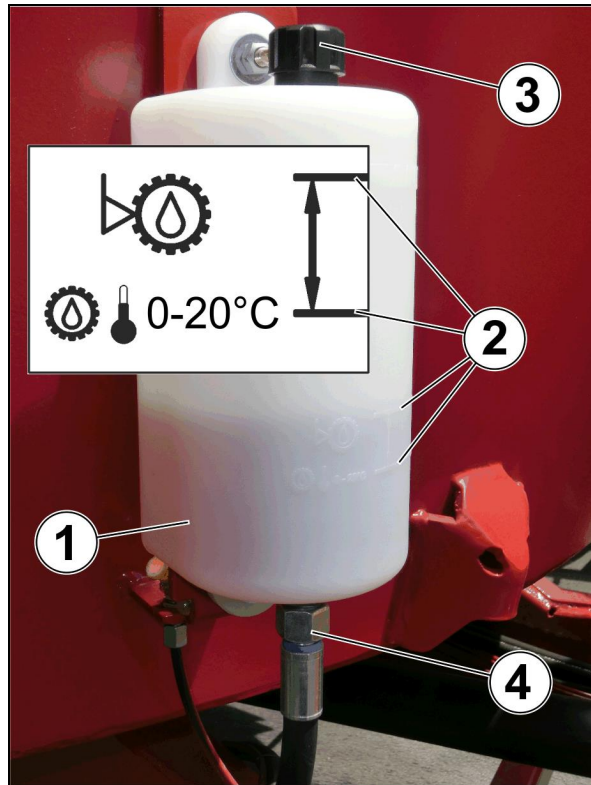

Fig. 76
1. Check the oil level in the mixer gearbox via the lateral compensating reservoir (Fig. 76/1).
The oil level must be visible between the two fill level markings (Fig. 76/2) of the compensating reservoir.
2. Fill gear lubricant oil (see Quantities when filled and change intervals, p. 128) through the vent opening into the compensating reservoir after removal of the vent screw (Fig. 76/3) if necessary.
3. Place a drip tray (capacity approx. 30 litres) beneath the compensating reservoir (Fig. 76/1).
4. Remove the vent screw (Fig. 76/3).
5. Unscrew the hose pipe (Fig. 76/4) from the compensating reservoir.
6. Refix the hose pipe (Fig. 76/4) to the compensating reservoir.
- 13. Fill gear lubricant oil (see Quantities when filled and change intervals, p. 128) through the filling pump into the mixer gearbox until the gear lubricant oil pours via the connector (**Fig. 76/4**) into the compensating reservoir (**Fig. 76/1**) and the oil level is visible between the two markings (**Fig. 76/2**) of the compensating reservoir.
- 17. Screw the vent screw (**Fig. 76/3**) again onto the vent opening of the compensating reservoir (**Fig. 76/1**).
- 20. Fill gear lubricant oil through the vent opening (**Fig. 76/3**) into the compensating reservoir if necessary.